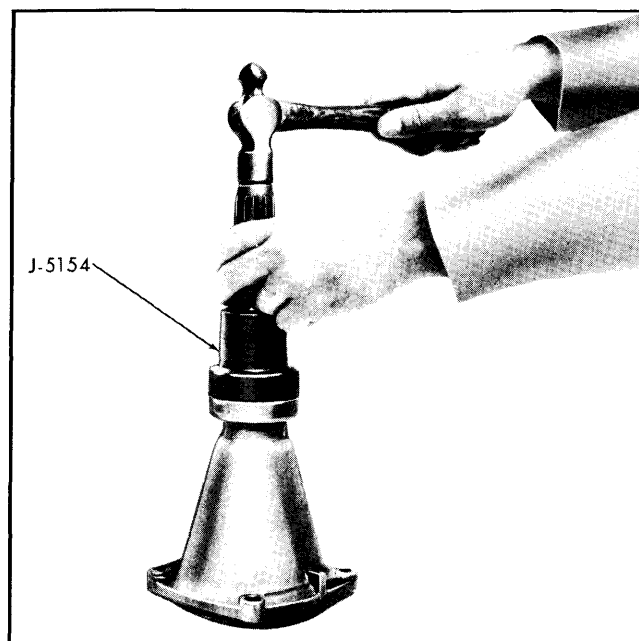

Fig. 7-99—Installing Extension Housing Seal
6. If necessary, install a new extension housing seal using Seal Installer J-5154 or J-21426. (Fig. 7-99)